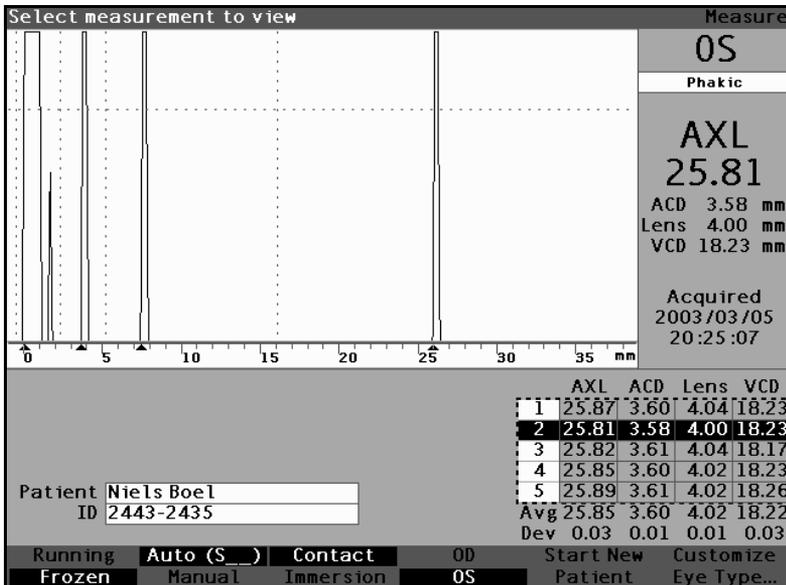

Figure 114 Measurement Selected
2. Press the knob or the  $\sqrt{\quad}$  button, to activate the table, indicated by the dashed border. (See Figure 114.)